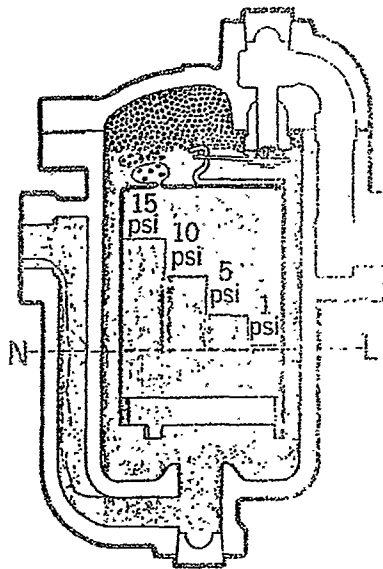

Fig. 3-1. Liquid levels in bucket for opening a $\frac{1}{2}$ " orifice No. 214 or No. 814 trap at working pressures indicated.
Obviously at 15 pounds working pressure differential the full weight of the bucket is not required to open the valve. Instead of the 21 oz. weight to open at 21 psig only a 15 oz. weight is required for 15 psig. Fig. 3-1 shows the water levels in a No. 814 bucket required to open the valve at pressures from 15 psi down to only 1 psi.
3. When entering condensate brings the condensate level slightly above the neutral line the bucket exerts a slight pull on the lever. But the valve does not open until the condensate level rises to the opening line for the existing pressure differential between the steam and the condensate return header. (See Fig. 3-1)